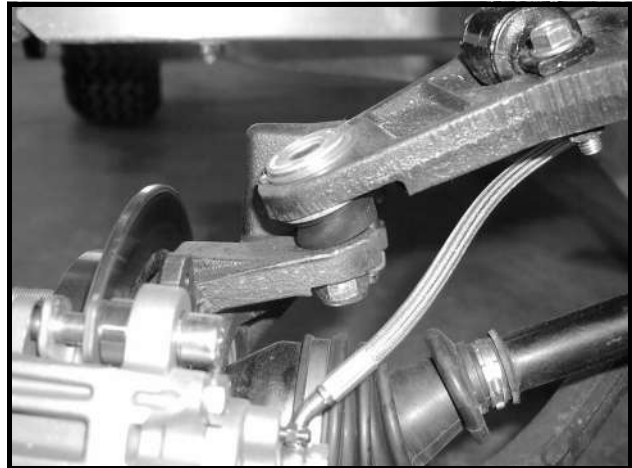

Figure 6-10 Upper Ball Joint and Upright
8. Remove the upper ball joint from the upright (**Figure 6-10, Page 6-11**). See following **NOTE** and **CAUTION**.